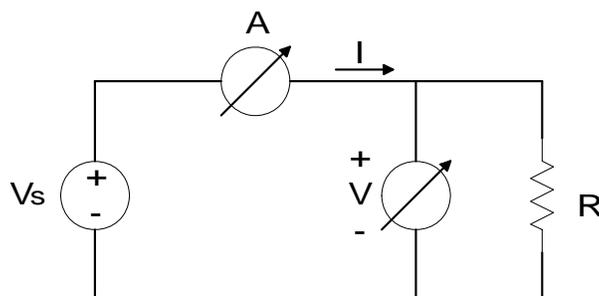

Fig. 1. Arrangement to obtain the V-I characteristic of a resistor.
2. Construct the circuit of Figure 1 using the 1 k $\Omega$  resistor.
3. Vary the voltage of the supply by increments of 2 V until 6 V. For each setting of the supply voltage measure the voltage and current indicated in Figure 1. Tabulate your measurements in Table 1.